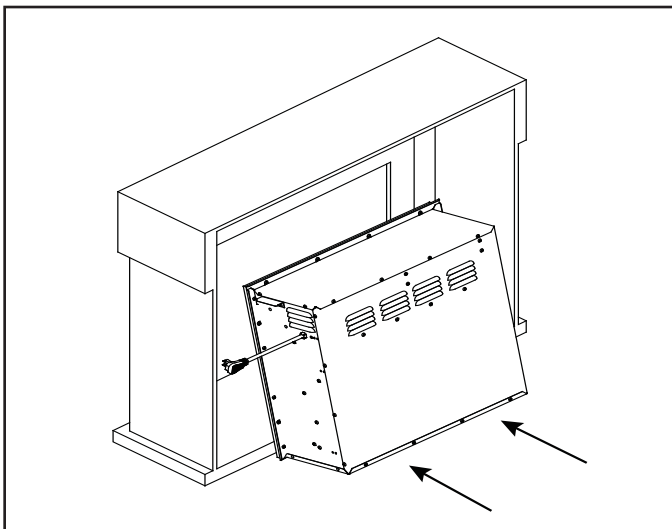

Figure 4.2 Installing Fireplace
2. Lift fireplace into the rear of the finished mantel and slide forward into opening. See Figure 4.2